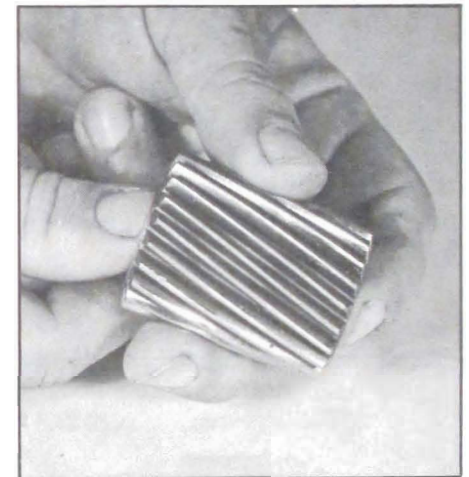
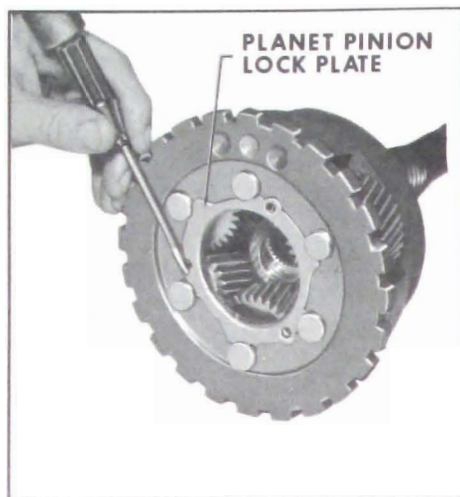

Figure 5-263
Figure 5-273
4. Coat inside pinion gear with petrolatum. Install Pinion Shaft into long planet pinion gear. Install twenty (20) needle bearings, spacer, twenty more needle rollers, and two (2) thrust washers. See Figure 5-273. Carefully remove pinion shaft. With a twisting motion lock both sets of needle rollers in place. See Figure 5-263.
12. Install planet pinion lock plate. Rotate plate so extended portions align with slots in planet pinion shafts, and three (3) attaching screw holes. See Figure 5-273.